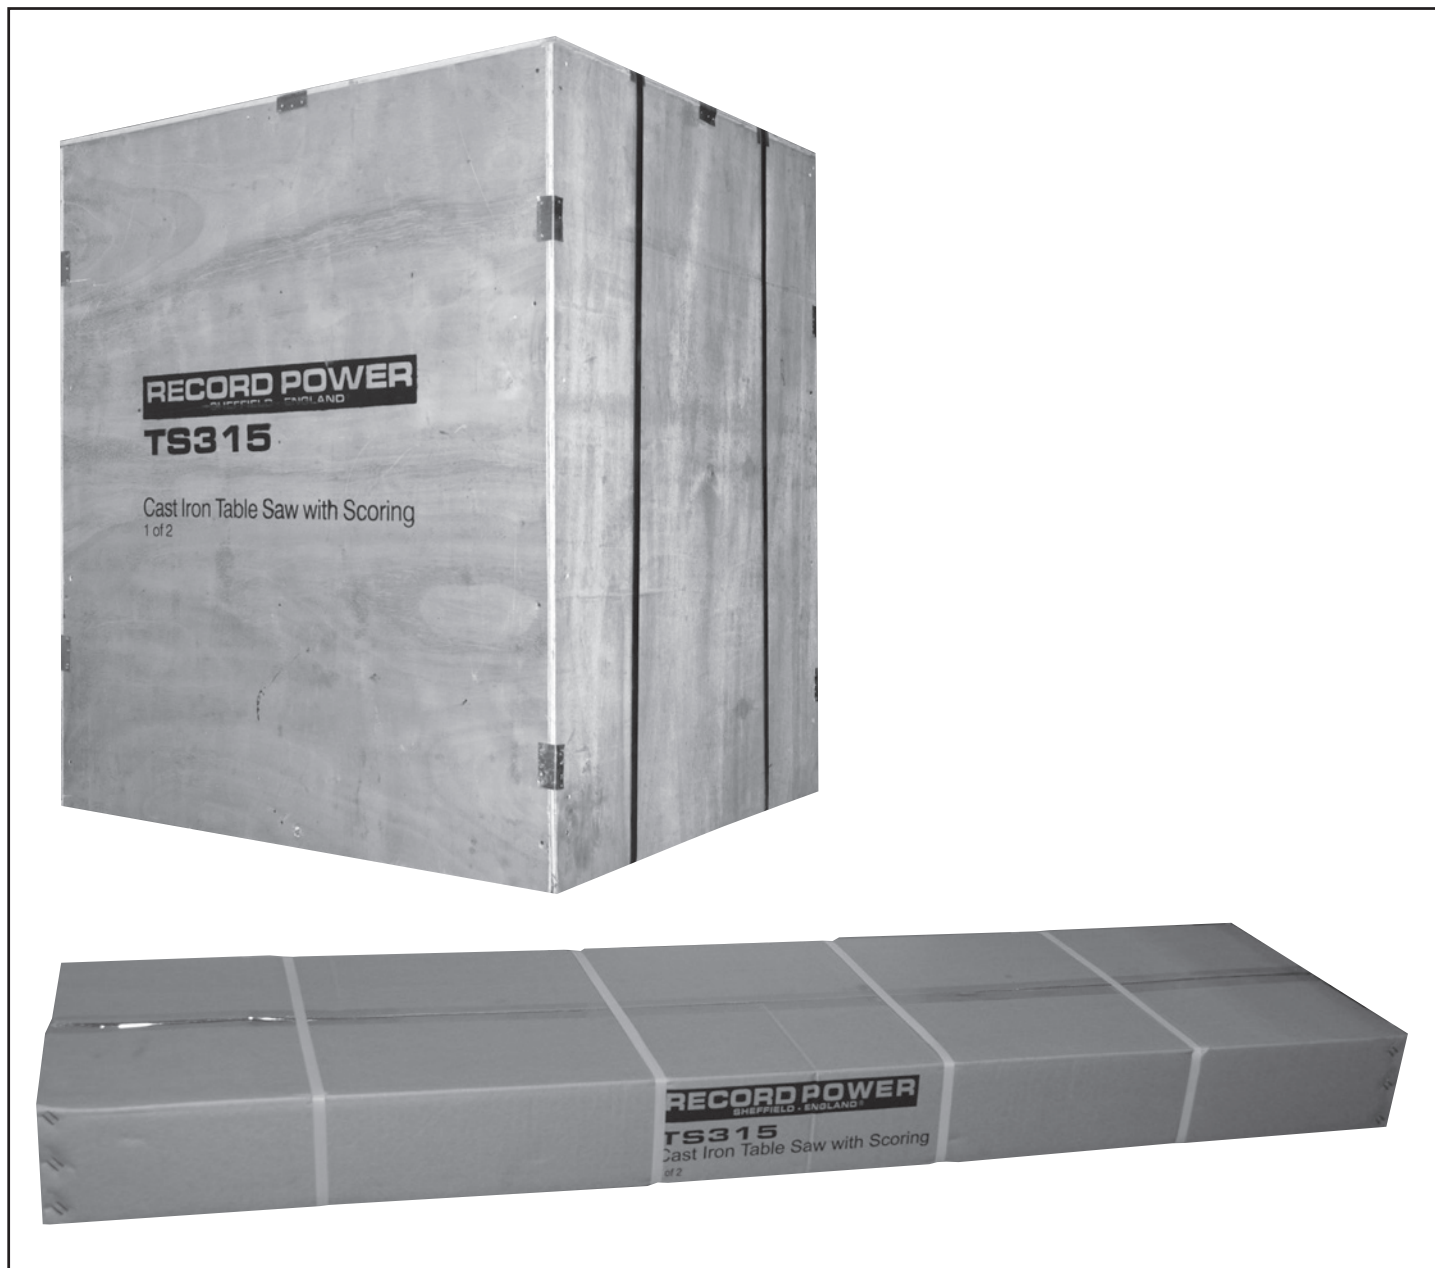

Fig.3
1. Main Table Saw - two cartons (Fig. 3)